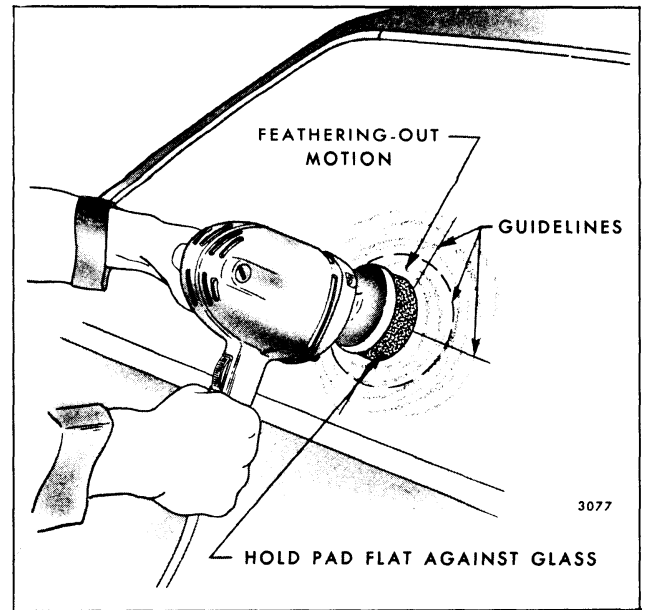

Fig. 1-9-Minor Glass Scratch Removal
3. Draw circle around scratches on opposite side of glass with marking crayon or equivalent. Draw other lines directly behind scratches to serve as guides in locating scratch during polishing (Fig. 1-9).
6. Using moderate, but steady, pressure, hold pad flat against scratched area of glass, and with a feathering-out motion, polish affected area as shown in Figure 1-9.
7. Cover sufficient area around scratch with a feathering-out motion as shown in Figure 1-9, to eliminate any possibility of a "bulls-eye".